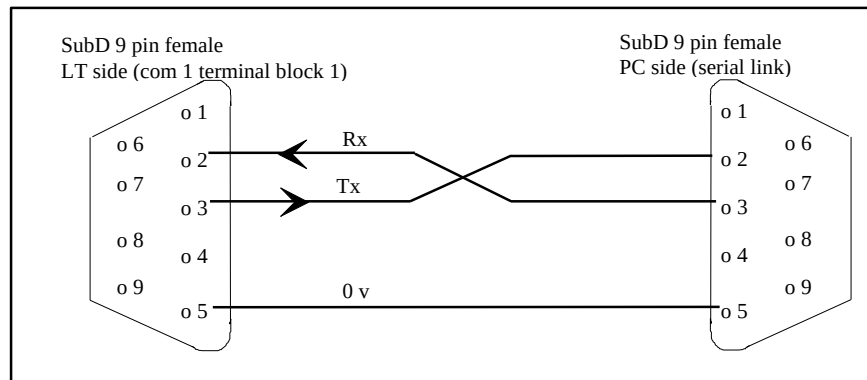

Figure 1 : LT ↔ PC connection wiring
- Connect the LT (Terminal block 1, com1) and the PC (com1 or com2) with a RS232 cable (figure 1),
- Connect the LT (terminal block 1, com1) and the PC (com1 or com2) with a RS232 cable (figure 1),